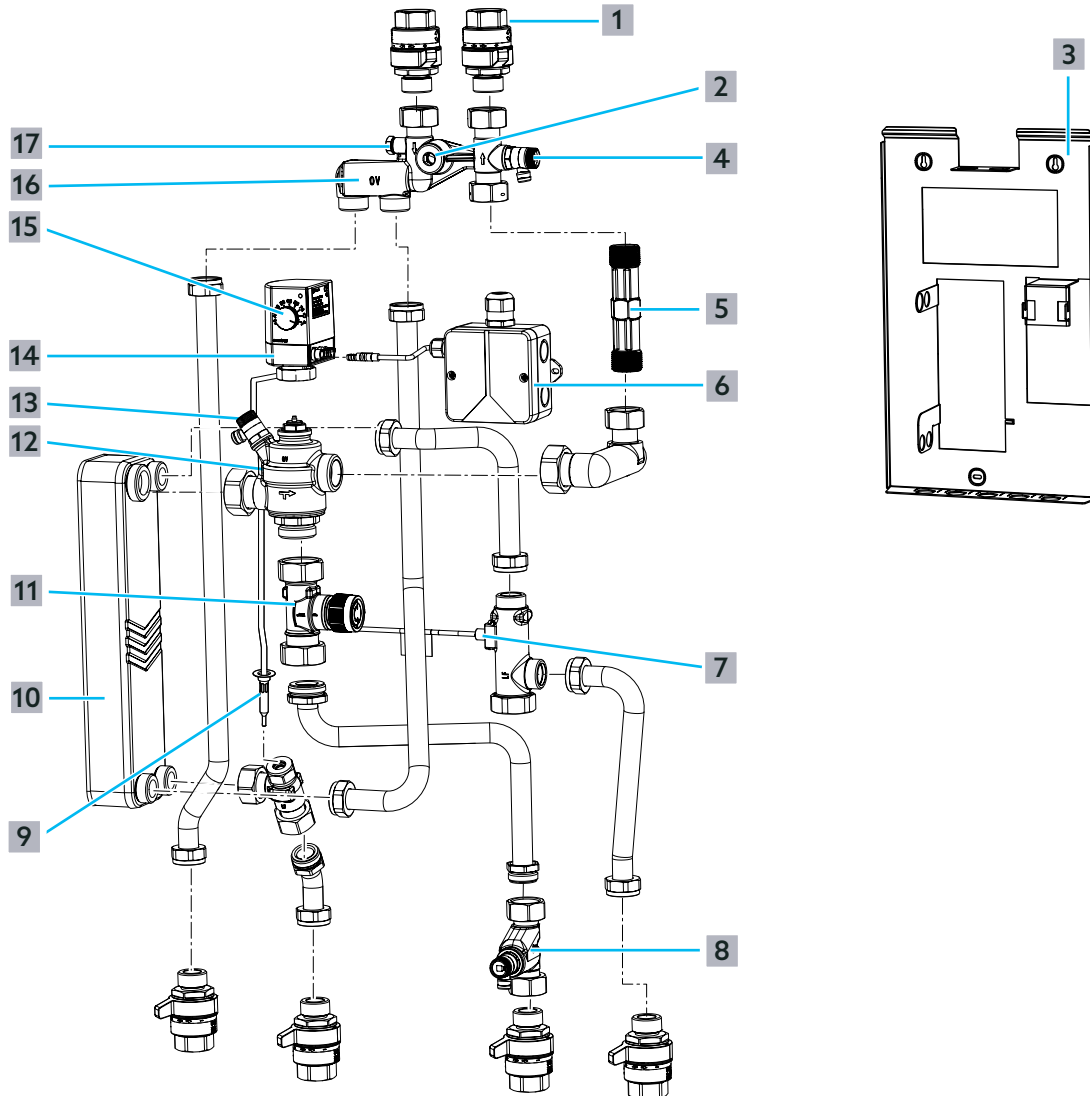

Fig. 3: Overview of the Regudis W-HTE GT dwelling station
Spacer for heat meter ((5) in Fig. 3 on page 10)	30 Nm
Temperature sensor ((9) in Fig. 3 on page 10)	15 Nm
Filter insert ((16) in Fig. 3 on page 10)	15 Nm
Vent and drain valve ((4), (8), (13) in Fig. 3 on page 10)	15 Nm